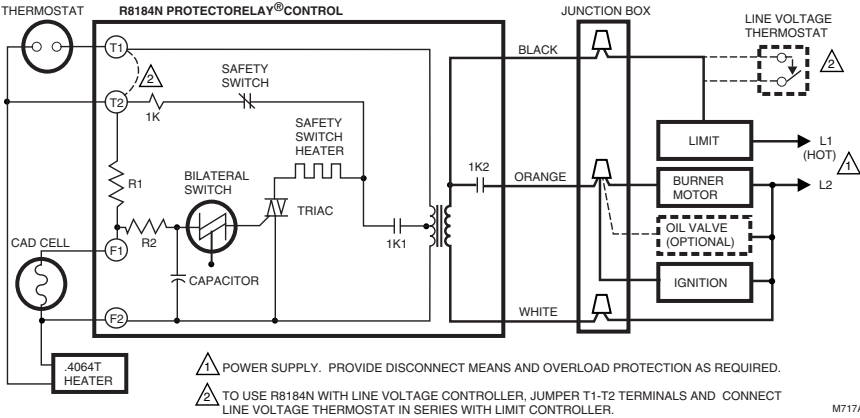

Fig. 7. Typical hookup for R8184N.
- R8184N—connect the cad cell leads to the F1-F2 terminals and thermostat leads to the T1-T2 terminals. See Fig. 7.